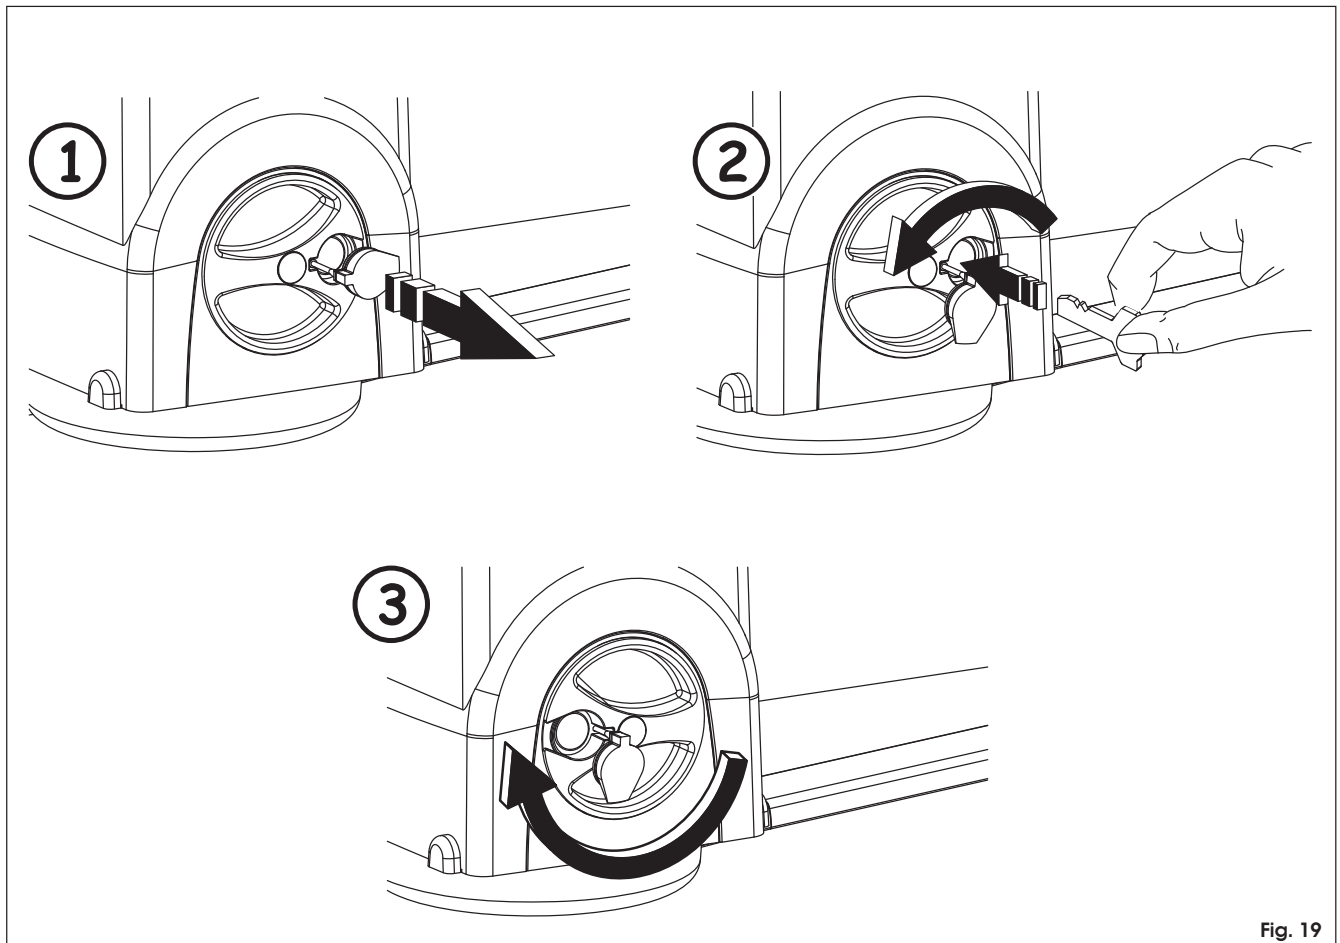

Fig. 19
3. Fit the key and turn it anti-clockwise until it stops, fig. 19 ref. ②.
4. Turn the release knob clockwise until it stops, fig.19 ref. ③.